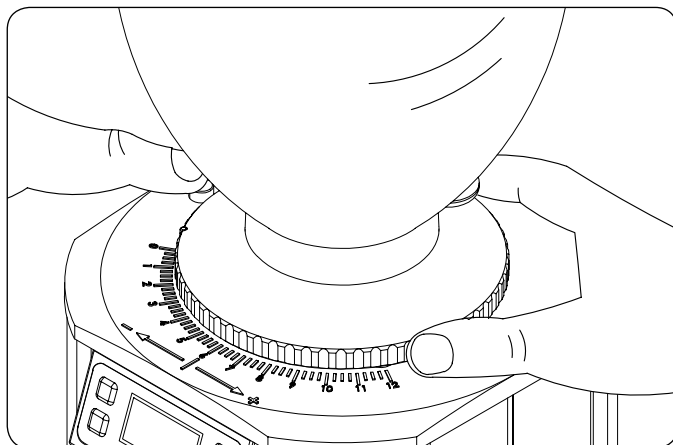

Figure. 2
- Adjust the grinding fineness at the optimal setting (fig. 2).